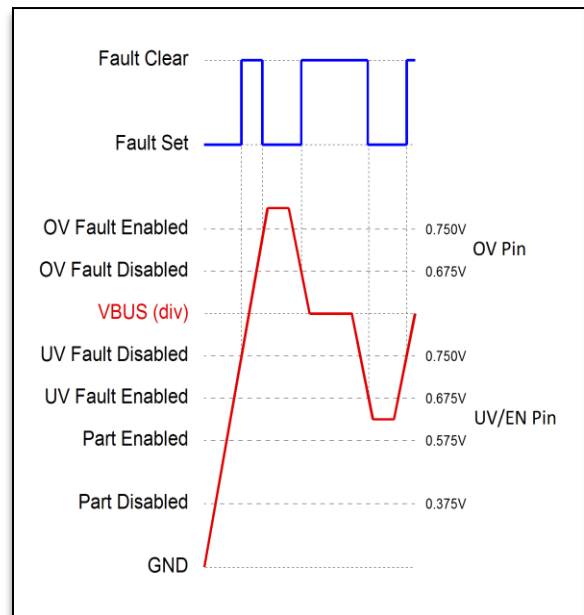

Figure 7 - Enable, UV and OV thresholds.
Figure 7 depicts the divided down BUS voltage, monitored on the UV/EN and OV pins respectively and the "fault" state of the PI2211. The over-voltage (OV) pin will disable (fault) the PI2211 once the voltage on the OV pin reaches 0.750Vdc. It will re-enable (fault clear) the controller once the voltage drops below 0.675Vdc.